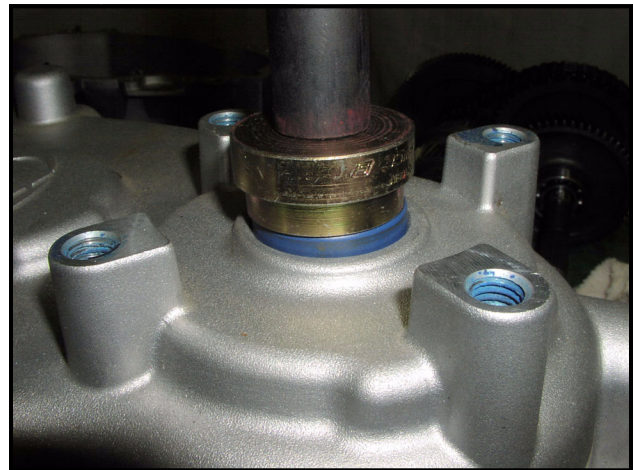

Figure 8-46 Install Shaft Seals in Case
2. Position seals with lips to the inside of the case and gently drive the seals flush with the outside of the case using a seal installation tool, socket or thick wall tube slightly smaller in diameter than the seal (**Figure 8-46, Page 8-15**). See following NOTE.